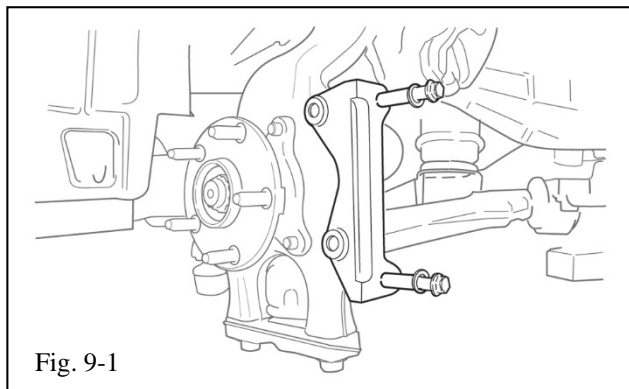

Fig. 9-1
- (a) Install the caliper bracket to the steering knuckle using the original caliper mounting bolts removed earlier (Fig 9-1).